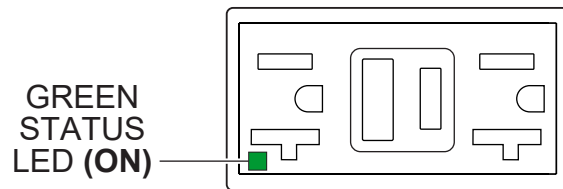

Figure 77. GFCI Receptacle (ON)
3. Verify that the **status LED** on the corresponding **GFCI receptacle** (Figure 77) is **ON (GREEN)**.